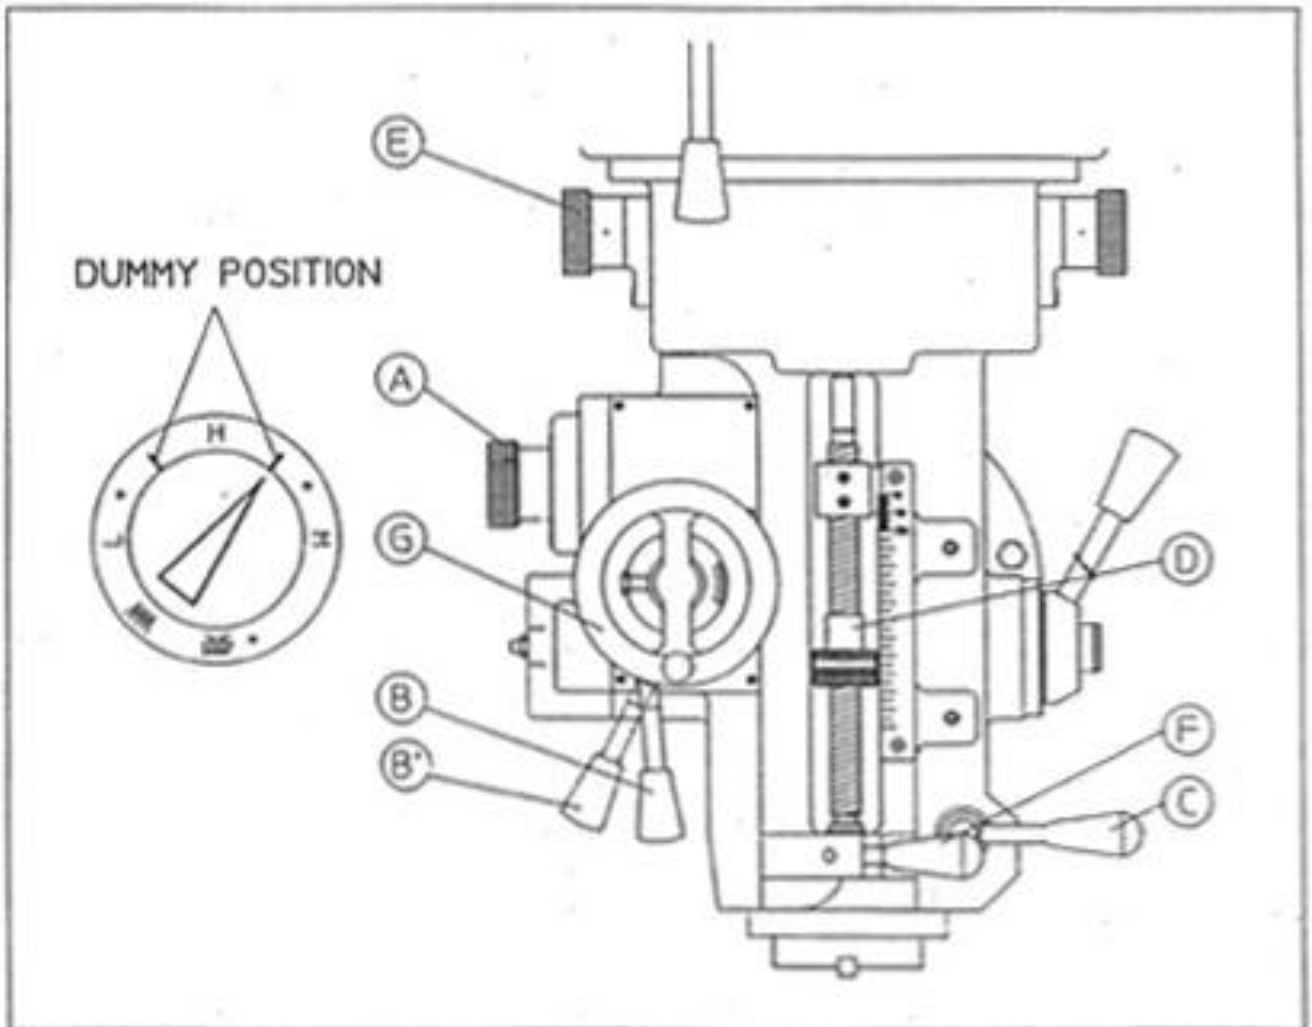

Fig. 4
a. Change of high and low speeds: (Fig.4)